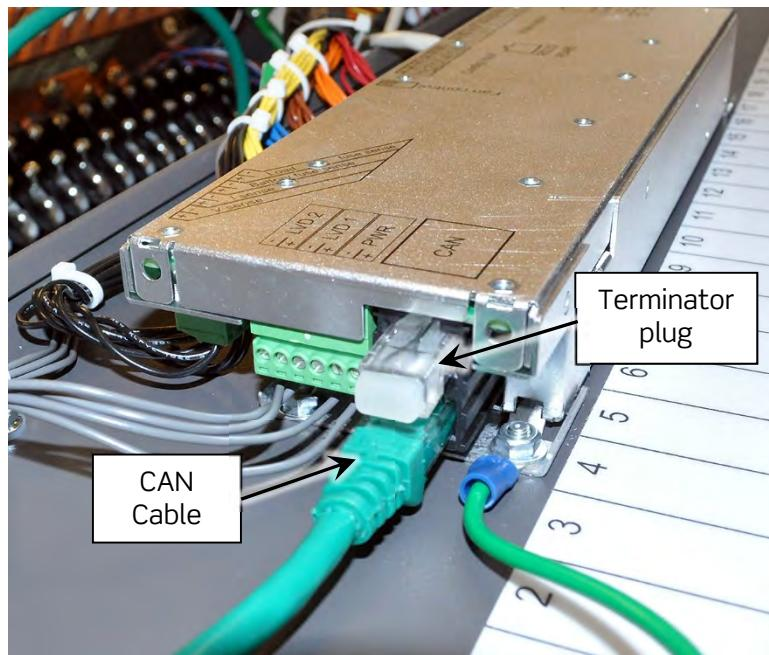

Figure 33 – CAN Cable
2. Plug the CAN cable into the CAN cable port (see Figure 33).